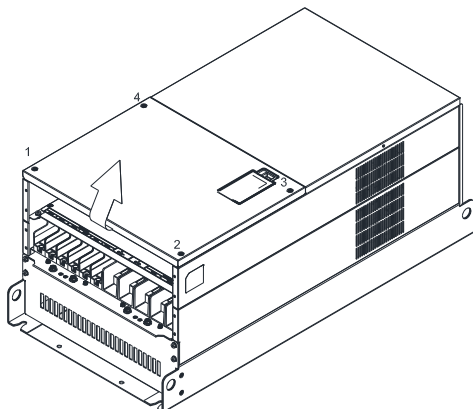

Figure 1
1. Loosen the screw (figure 1) and remove the cover. Screw torque: 12–15 kg-cm / [10.4–13.1 lb-in.] / [1.2–1.5 Nm]